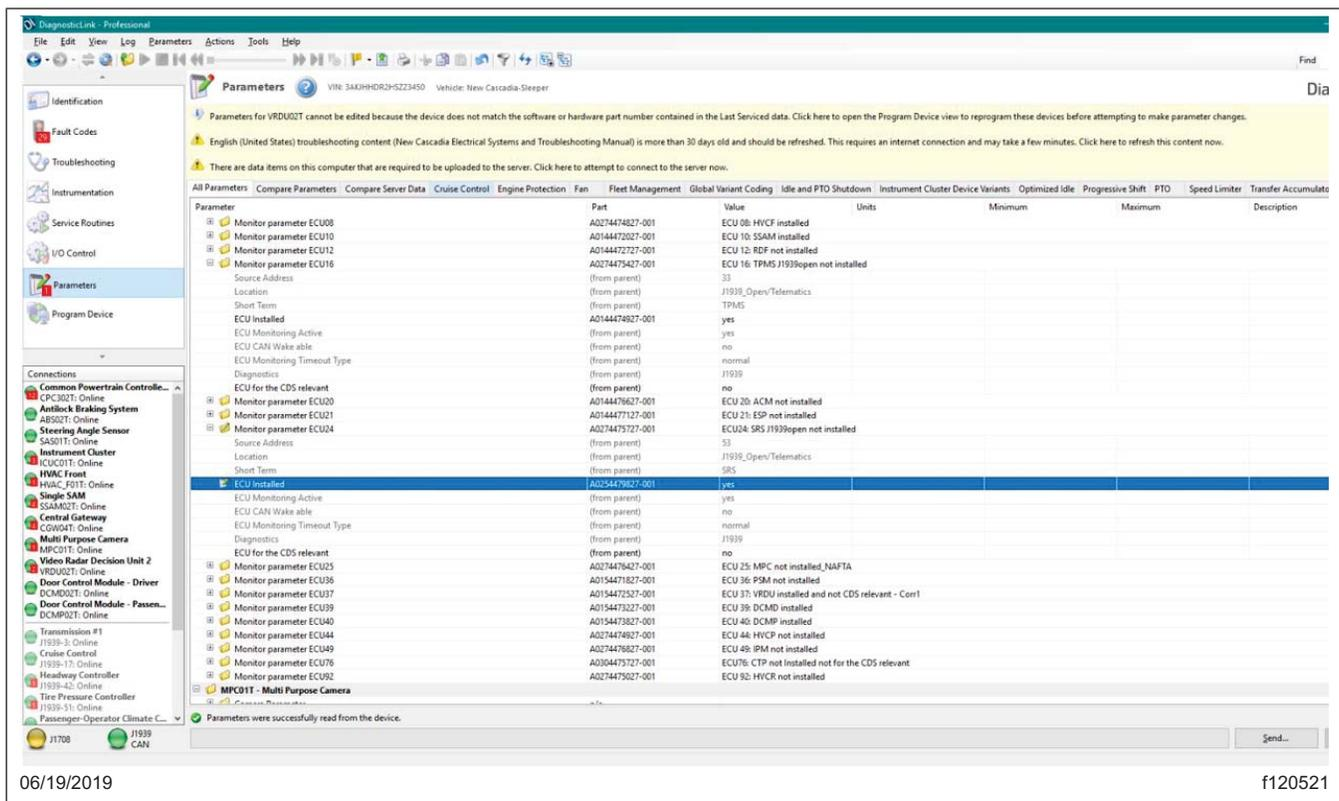

Fig. 19, Modifying the CGW Parameter
- **CGW04T:** "Monitor parameter ECU24", change parameter to A0274475727-001 "ECU24: SRS J1939open not installed", Then use the "+" box to expand "Monitor Parameter ECU24", drop down 4 lines to "ECU Installed", change Value from "No" to "Yes" by selecting parameter A0254479827-001. See Fig. 19 .